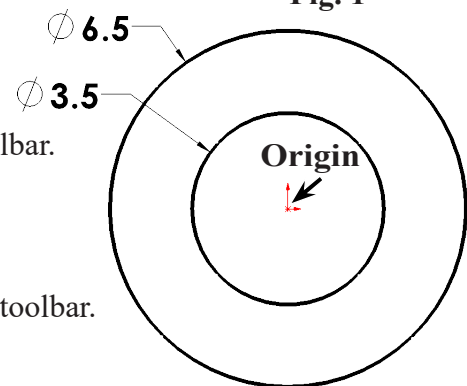

Fig. 2
Step 3. Click **Circle**  (S) on the Sketch toolbar.
Step 4. Sketch two circles at the **Origin** , **Fig. 2**.
Step 5. Click **Smart Dimension**  (S) on the Sketch toolbar.
Step 6. Dimension circle **diameters 6.5 and 3.5**, **Fig. 2**.